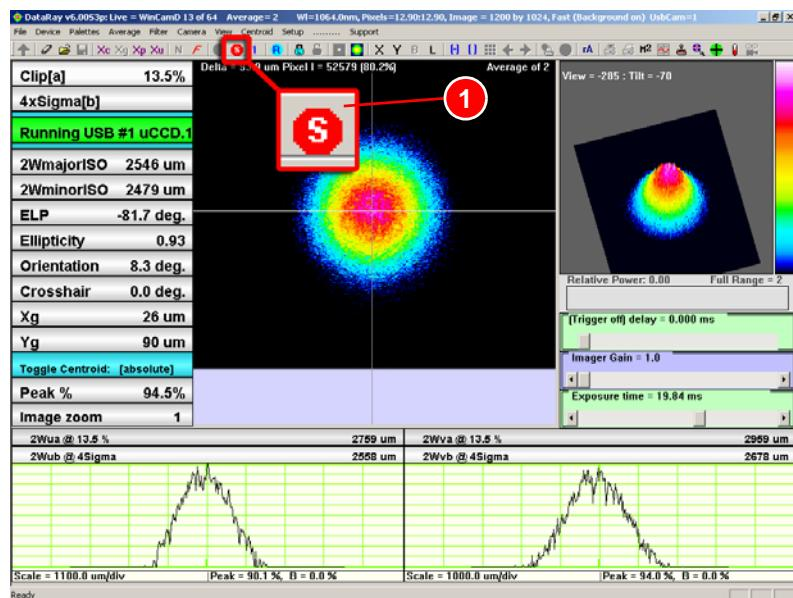

Figure 6.44 Stopping the measurement
To check the overmodulation, click on the Stop button (see figure 6.44). A snapshot will be displayed. Switch off the laser beam and check the screen display without safety goggles.
14. Stop the WinCam measurement using the button (1) (Figure 6.44) and close the shutter.